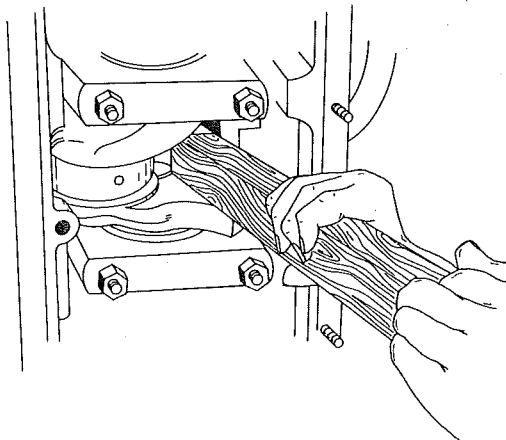

FIG. 18—REMOVING PISTON
c. With a clean piece of wood of suitable size as shown in Fig. 18, push the piston out. Take care